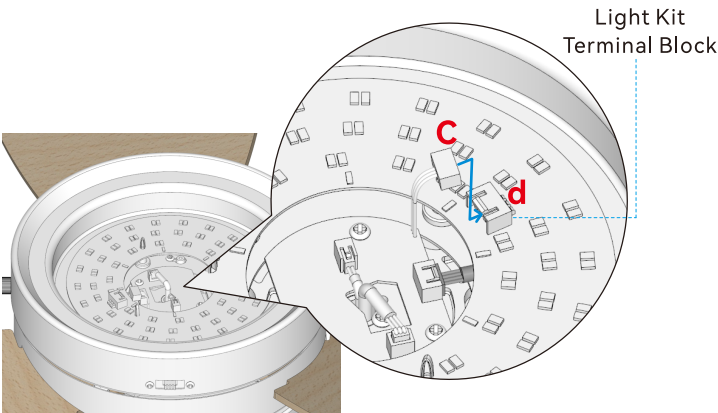

Fig. 3.2
- 3.5 Insert the wire plug (c) into the light kit terminal block (d) on the light kit as shown in Fig. 3.2.